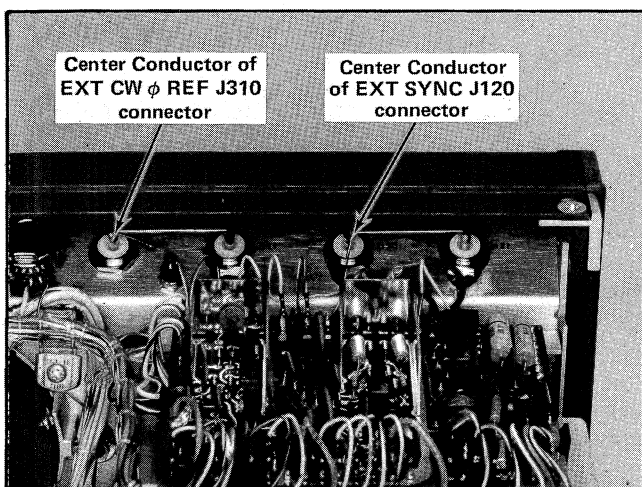

Fig. 6-28. Location of step 50 test points.
b. Connect a 10X probe from the test oscilloscope vertical input connector to the center conductor of the EXT CW ϕ REF J310 connector; see Fig. 6-28.
g. Connect a 10X probe from the test oscilloscope vertical input connector to the center conductor of the EXT SYNC J120 connector (R12 if nominal 1 volt sync signal is being used); see Fig. 6-28).